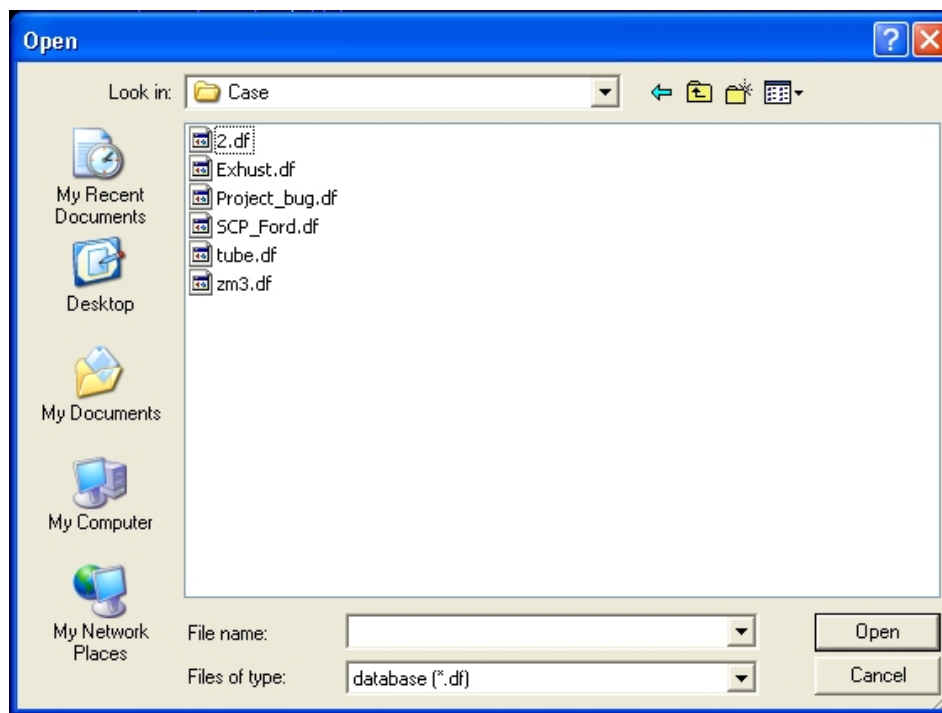

Figure 3.2.2 Open File window
- The user can open a eta/DYNAFORM database by selecting a file name in the open file dialog window. The OPEN DATABASE window is shown in Figure 3.2.2.